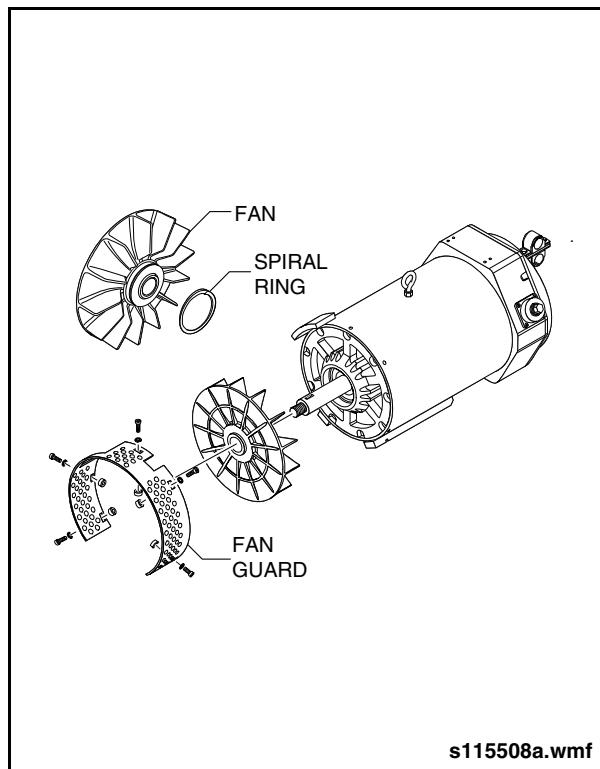

Fig. 9-15: Fan Guard & Fan Removal
3. Remove fan guard hardware, fan guard, and fan. Remove spiral ring from fan and discard. *See "Fig. 9-15: Fan Guard & Fan Removal" on page 26.*